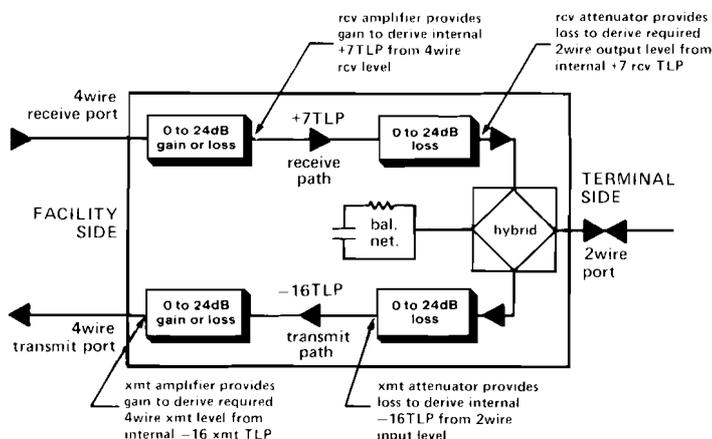

figure 11. Level coordination in 6162X
3.14 Because internal TLP levels of +7TLP in the receive path and -16TLP in the transmit path must be maintained regardless of external levels, two level control circuits are present in each path. This is shown in figure 11.
4.06 At the terminal end of the SF signaling path, the *E&M signaling interface* circuit determines the state of the local M lead (A-side signaling) or E lead (B-side signaling) and communicates with the *control logic* to initiate proper transmit path cut and SF tone transmission. The *control logic* circuit also receives an indication from the *SF detector* when tone is received and causes the *E&M signaling interface* to output the proper E-lead or M-lead states. Figures 11, 12, and 13 are function sequence flowcharts that illustrate the signaling operation of the 6162X with A-side signaling. Horizontal paths identify events occurring simultaneously, and vertical paths denote sequential events. Dotted lines indicate elapsed time.